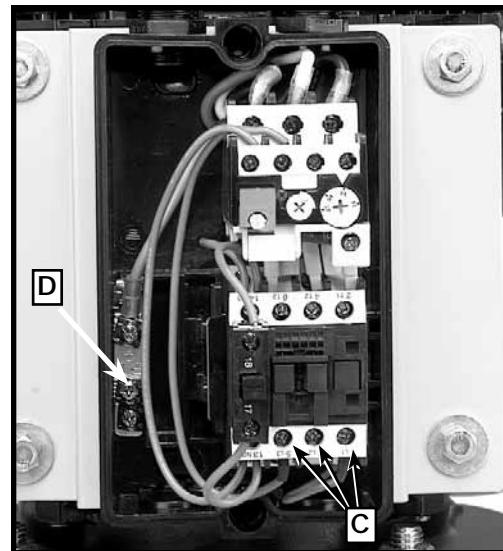

Fig. 15
2. Bring three phase power line through the access hole (B) Fig. 14, in the top of controller box and connect the three power lines to terminals (C) Fig. 15, and the green ground wire to ground screw (D).
- After connecting the power cord to the machine, make certain the rotation of the motor is in the proper direction by viewing the rotation of the blower fan. The fan should rotate in a clockwise direction. Rotation of the motor can be reversed by interchanging any two of the three incoming power lines connected to terminals (C) Fig. 15.